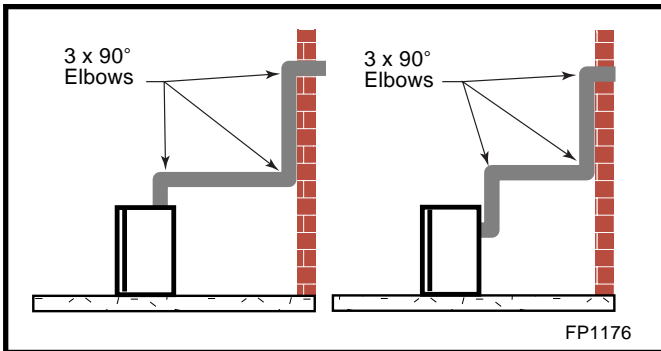
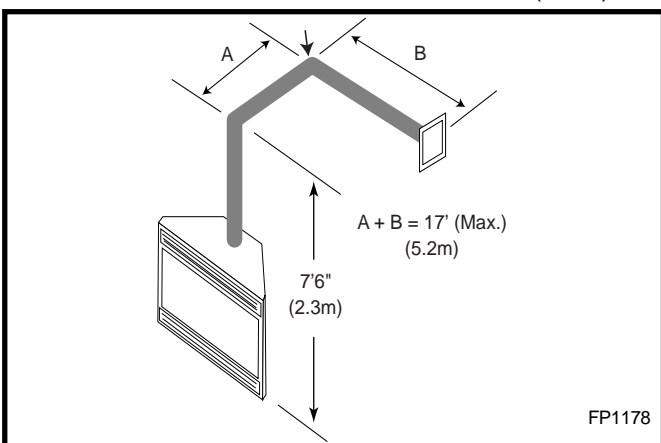

Fig. 26 Maximum three (3) 90° elbows per installation.
Fig. 28 Horizontal run reduction.
- If a 90° elbow is used in the horizontal vent run (level height maintained) the horizontal vent length is reduced by 36" (914mm). (Fig. 28 & 29) This does not apply if the 90° elbows are used to increase or redirect a vertical rise. (Fig. 26)
In Figure 28 & 29, dimension A plus B must not be greater than 17' (5.2m)